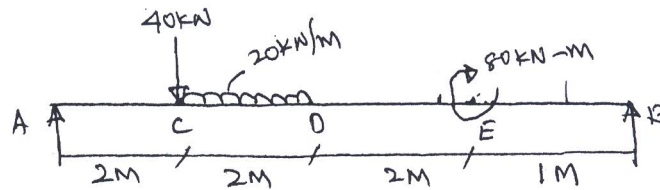

Fig.Q.4(c)
c. Draw SFD and BMD for a simply supported beam carrying loads as shown in the Fig.Q.4(c). (10 Marks)